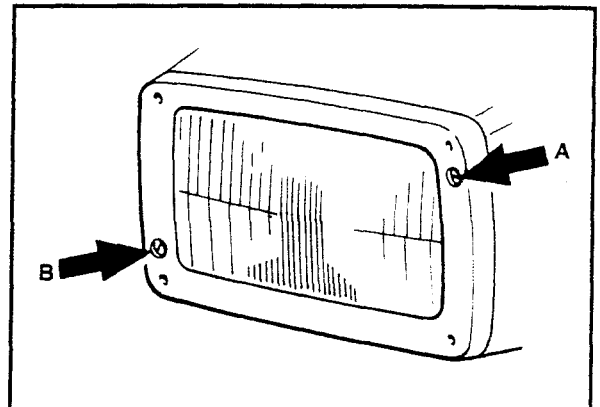

Figure 4-26. Headlamp Beam Adjustment Screws
3. See Figure 4-26. To change vertical setting adjust screw marked A. To change horizontal setting adjust screw marked B.